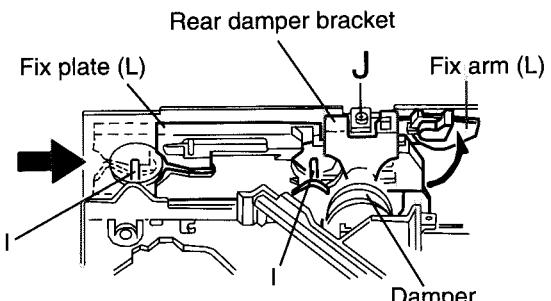

Fig.8
- Raise the both sides fix arms and move the fix plates in the direction of the arrow to place the four shafts I as shown in Fig.8 and 9.